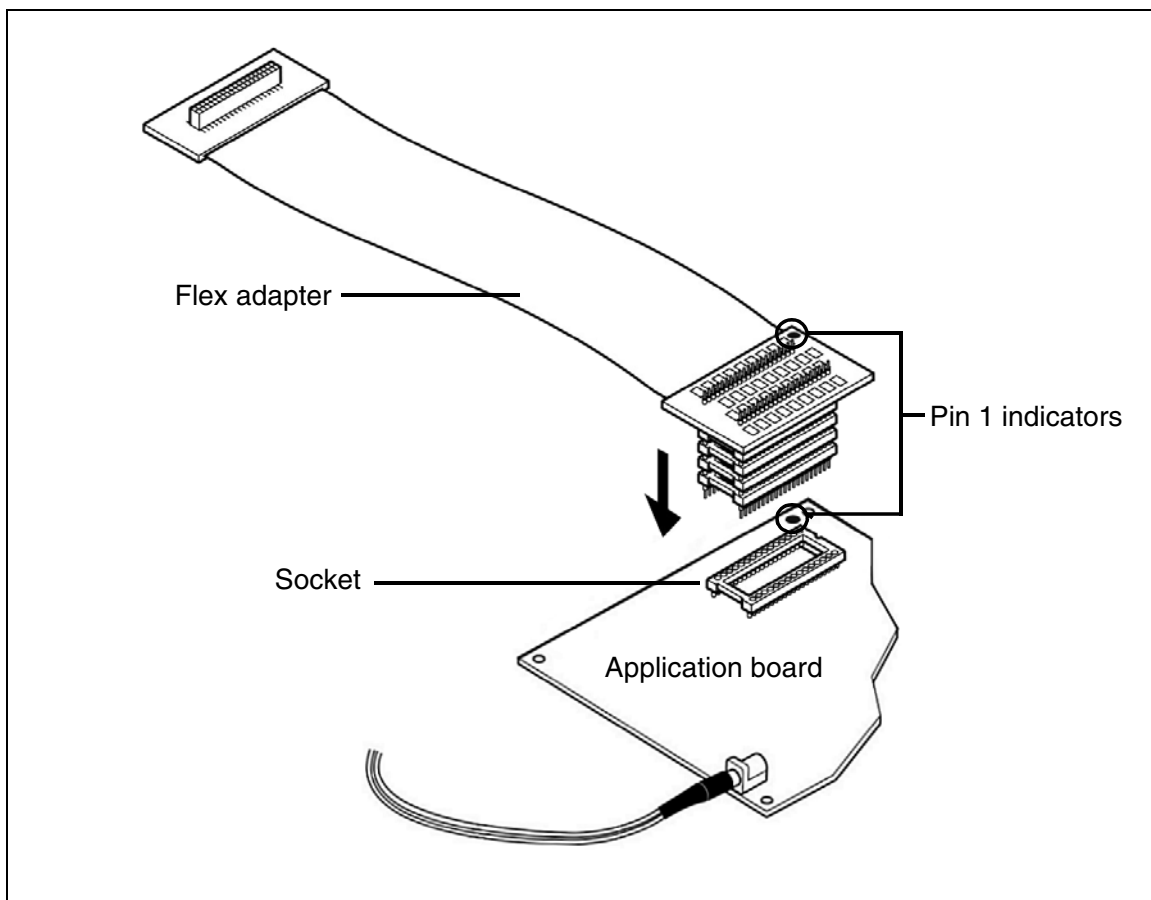

Figure 7: SDIP32 connection scheme
- 2 Align the pin 1 indicators on the SDIP32 connector of the DB510 flex adapter, then insert the SDIP32 end of the DB510 flex adapter into the socket on your application board as shown in Figure 7.